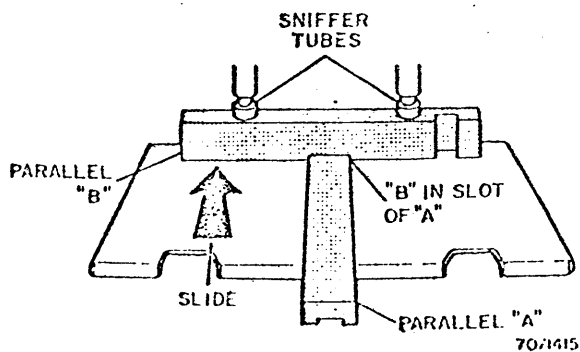

Fig. 3-57. Parallel Bars in Tray Level Check Position
4. Place the parallel bars as in Fig. 3-57.